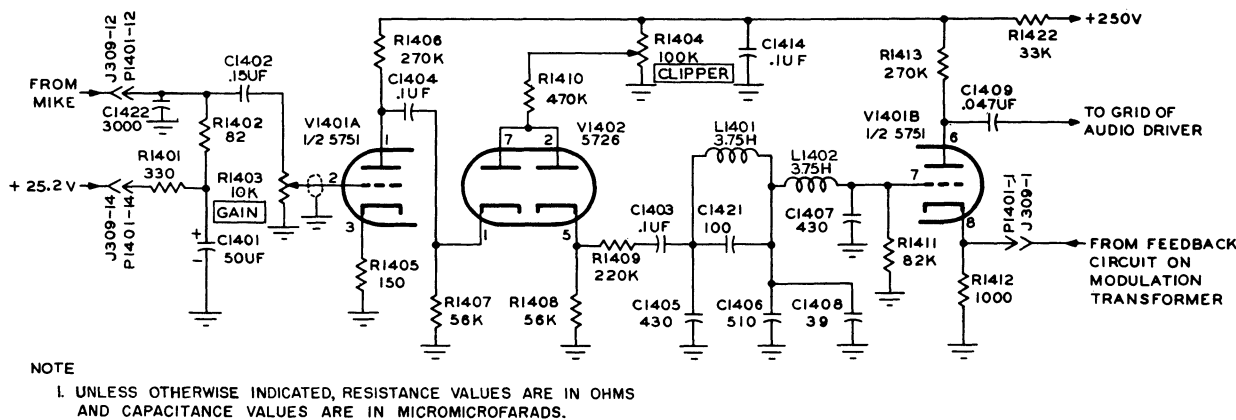

Figure 4-27. Modulator Unit, Audio Amplifier and Clipper, Simplified Schematic Diagram
4.9.5.1 FIRST AUDIO STAGE. Refer to figure 4-27. Microphone exciting current is obtained from the 25.2-volt d-c line through dropping resistor R1401 and a filter circuit consisting of R1402 and C1401. A d-c potential of approximately six volts exists across the microphone. The output of the microphone is coupled to the microphone GAIN control (R1403) through capacitor C1402. The gain control is available as a screw driver adjustment on the bottom of the unit. Microphone input voltage is amplified in the first audio amplifier, V1401A, and coupled to the next stage.
4.9.5.2 CLIPPER. Refer to figure 4-27. The output of the first audio stage is coupled to a biased series clipper, V1402, through C1402. Resistors R1407 and R1408 serve as clipper input and output resistors respectively. Clipper plates are connected together and tied to potentiometer R1404 through series resistor R1410. Resistor R1404 acts as a voltage divider and connects to the +250-volt line through a filter consisting of C1414 and R1422. The exact point at which clipping will occur is set by R1404 which controls the positive potential that is applied to the plates of V1402.
4.9.5.3 SECOND AUDIO STAGE. Refer to figure 4-27. The clipper output is fed through series resistor R1409 and capacitor C1403 to a two-section,